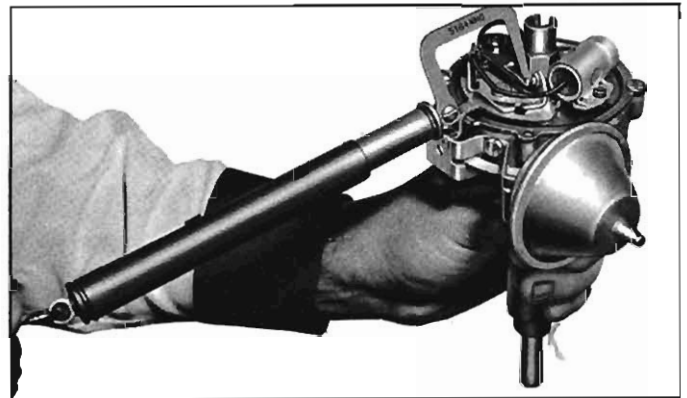

Fig. 8-4—Checking Breaker Arm Spring Tension
8. Check and adjust points for proper alignment and breaker arm spring tension (fig. 8-4). Use an aligning tool to bend stationary contact support if points need alignment.